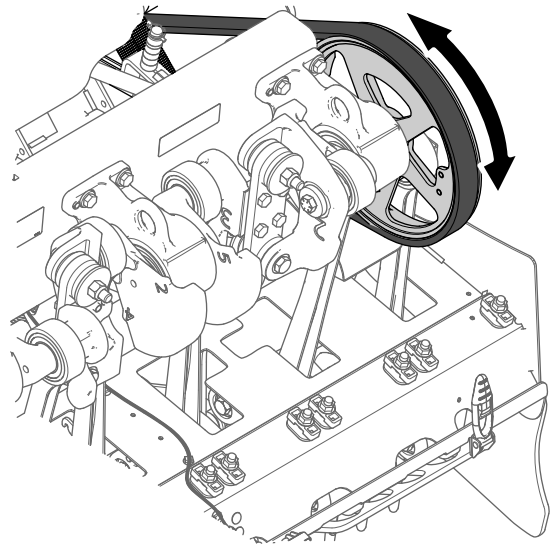
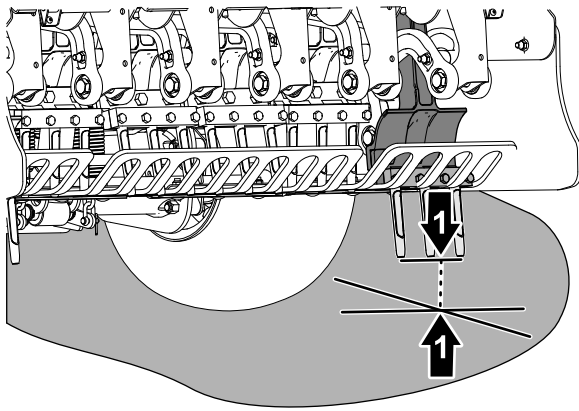

Figure 59
Figure 60
4. Rotate coring-head pulley (Figure 59) until the outermost tines are aligned closest to the ground (Figure 60).